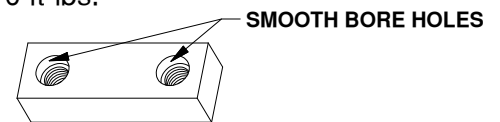
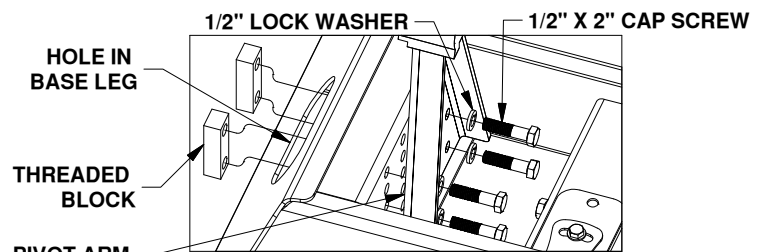

FIGURE D2: Detail of threaded block showing smooth holes.
FIGURE D3: View looking at passenger pivot arm mounting location.
2. **Secure arms.** Locate both pivot arms, the four threaded blocks, eight 1/2" X 2" cap screws, and eight 1/2" lock washers. Place the lock washers over the cap screws. Align the flat side of the pivot arm flat against the bolt plate and install four 1/2" X 2" cap screws through the holes on the arm, holding the arm in place. Locate the threaded blocks. Note that the sides of the block have threaded holes on one side and smooth bore holes on the other side. When installing the threaded blocks it is critical that the side with the smooth holes is flat against the bolt plate when installed, see Figure D2. Pass the threaded blocks through the leg and align the blocks with each set of screws and start each screw, see Figure D3. After all screws are started through the arms, torque each bolt to 110 ft-lbs.